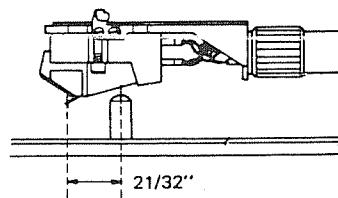

Fig. 3
- Move the tone arm over the turntable shaft and move the cartridge back or forth to obtain a space of 21/32" between turntable shaft and stylus tip. (Fig. 3)